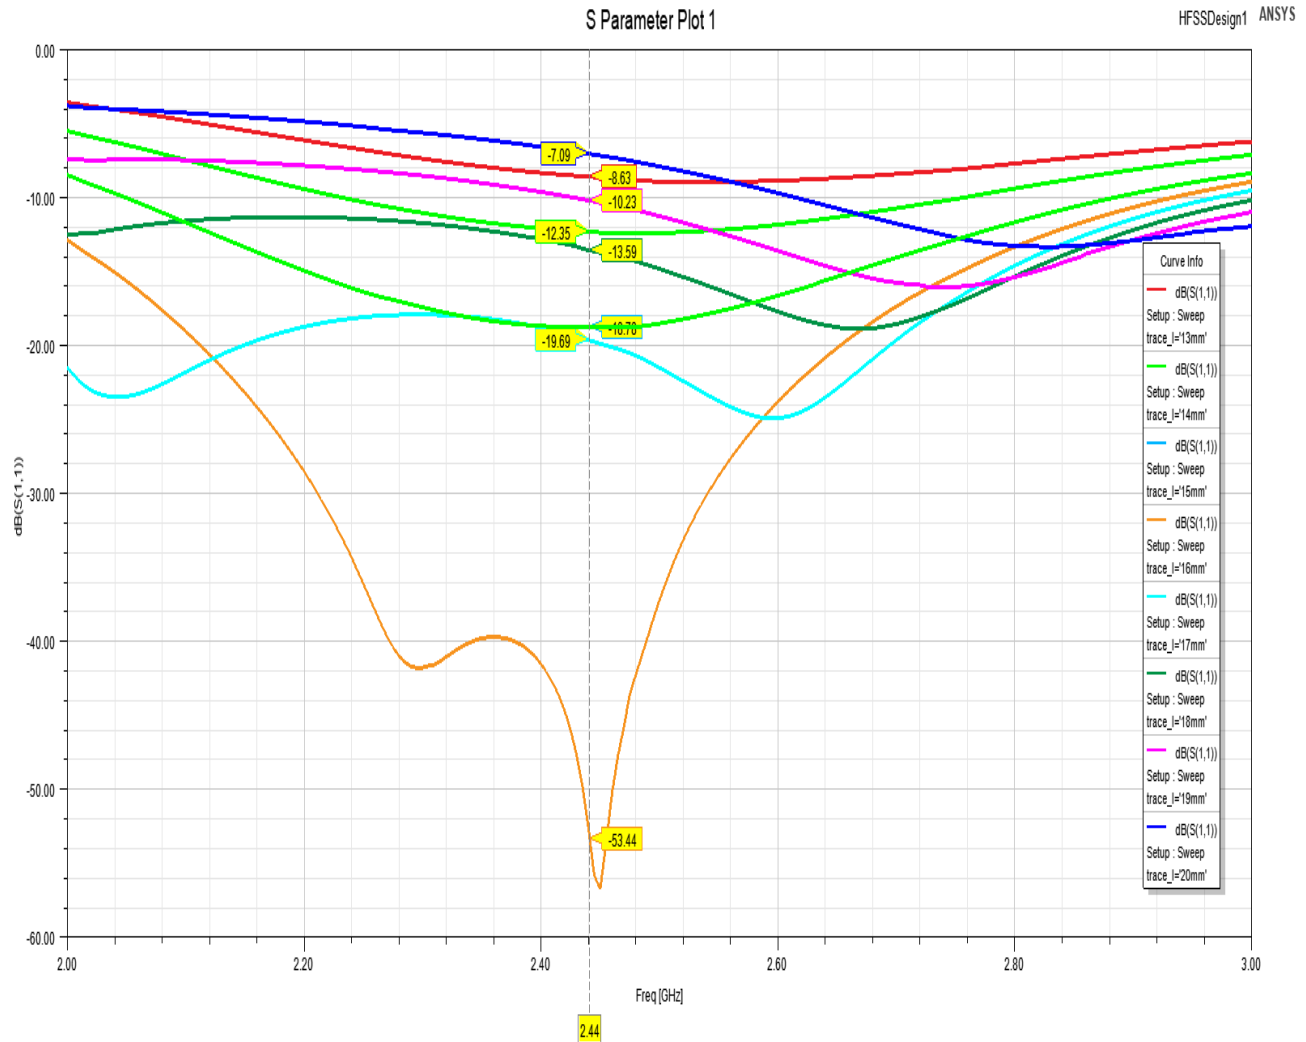

Figure 13. trace_l Parameter Plot
- trace_l Parameter Plot (Figure 13)